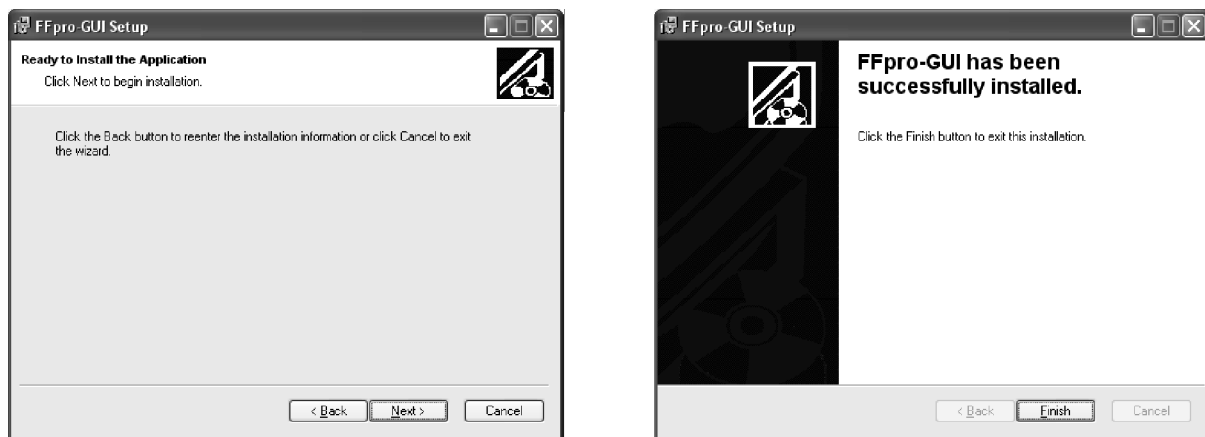

Figure 37
4. Click "Next" to start the copying process. When all files have been installed successfully, the window shown in Figure 37 right appears. Click "Finish" to exit the Installation Wizard.